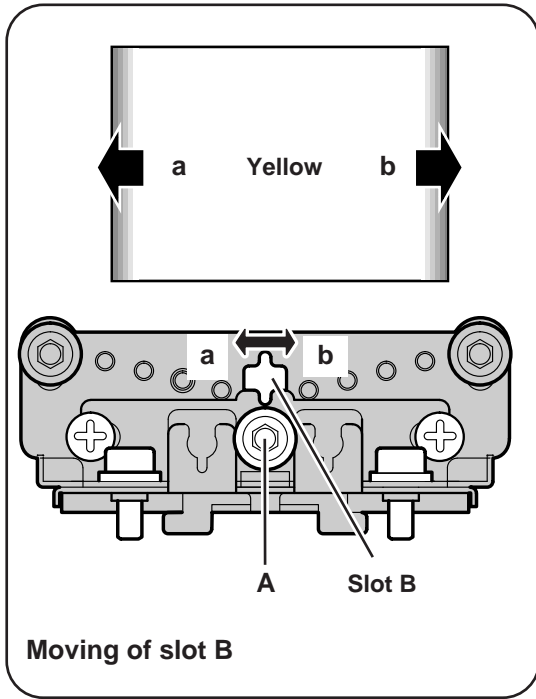

Fig. 3-13
- 1) If the color shade appears on the left or right of the screen as shown in Fig.3-13, loosen 1 screw **A** with the 2.0mm hex driver and adjust a slot **B** to make color uniformity in yellow by turning a slot screwdriver.